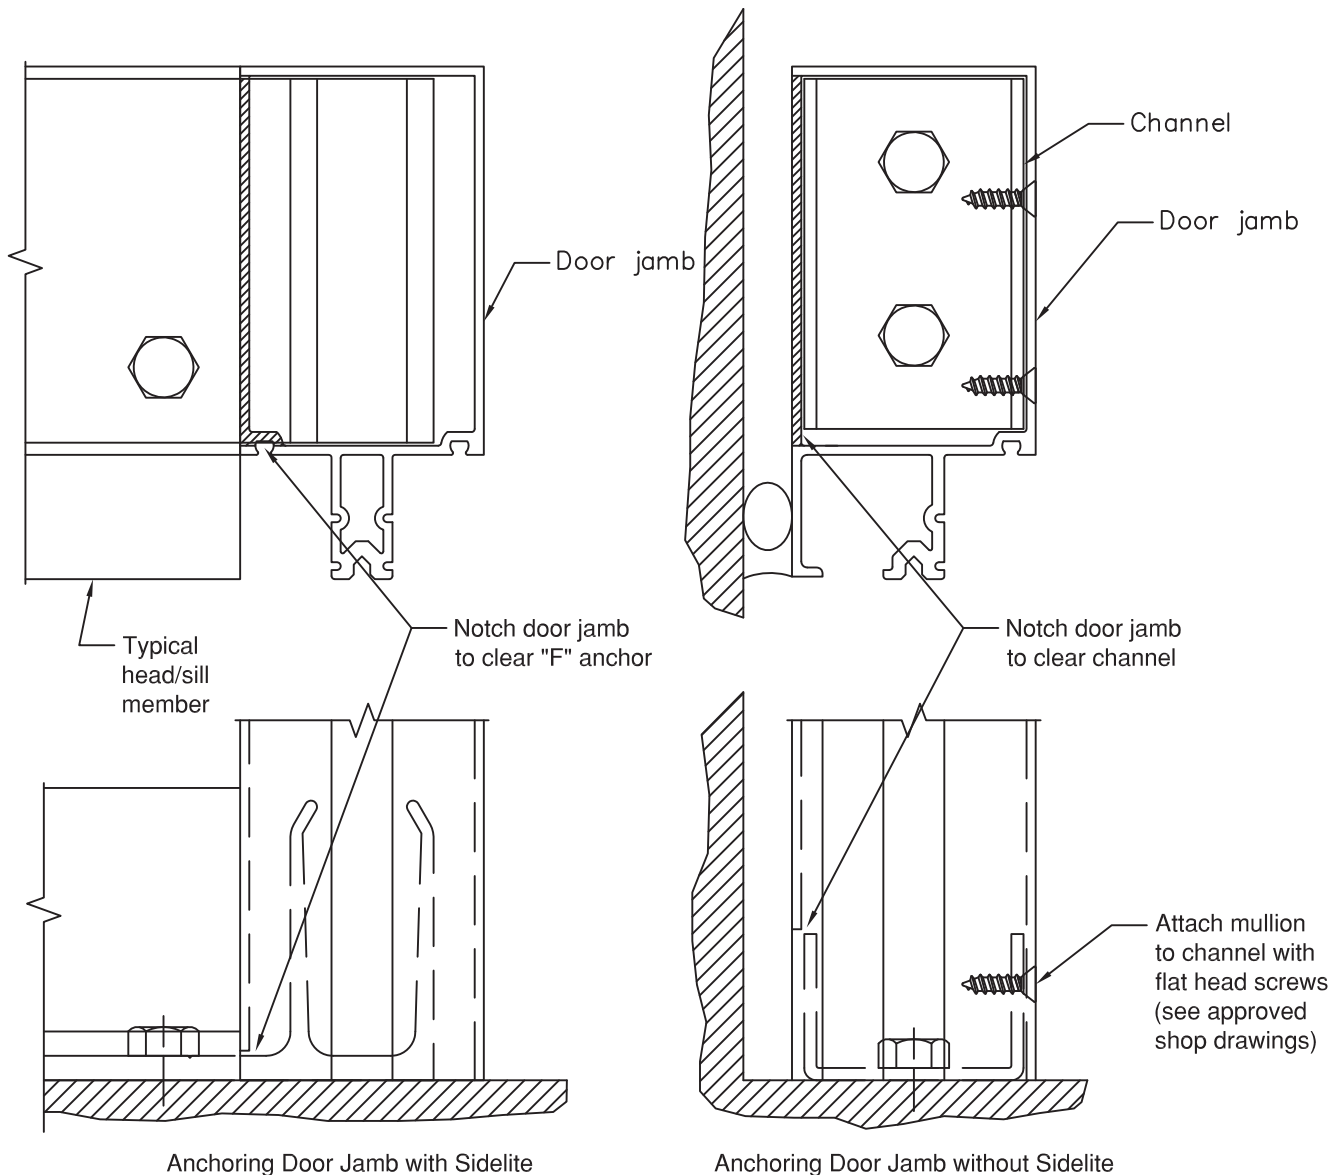

Figure 32A
C.1 Curtain wall verticals and door subframes run through to finished floor. Bed adjacent curtain wall verticals in sealant and anchor to floor per approved shop drawings. **SEE FIGURE 32A, page 17** for suggestions on anchoring door jamb mullion.
C.2.1 Attach TH-44 threshold clip to bottom of each jamb subframe with two (2) FS-256 #8 x 1 1/2" Phillips Round Head screws.